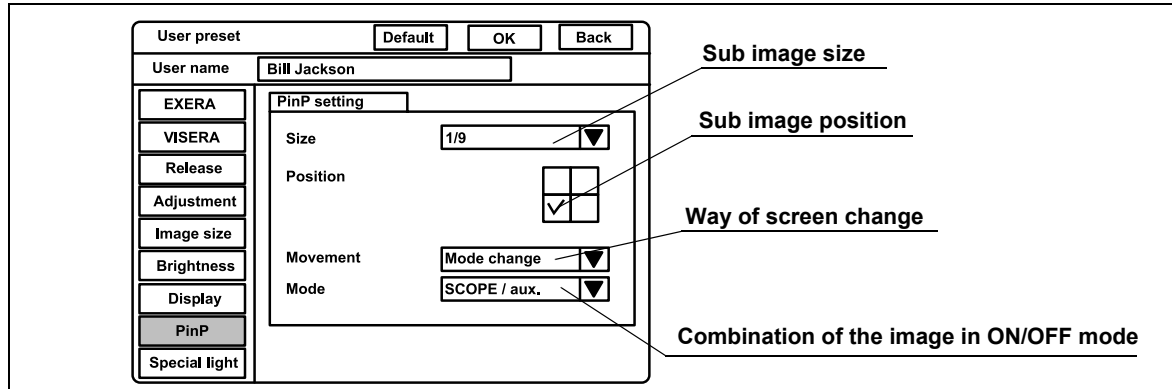
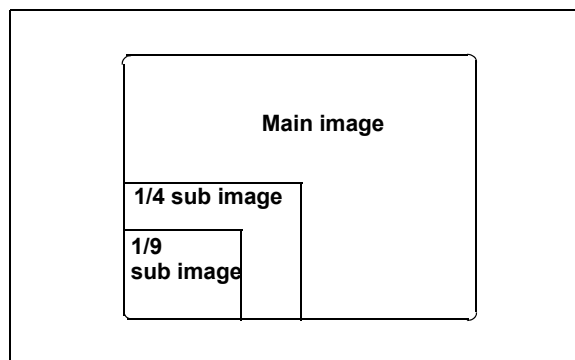

Figure 9.41
Figure 9.42
Click "PinP" on the system setup menu. The setting items appear on the right side of the window (see Figure 9.41).
1. Click "▼" of "Size" (see Figure 9.41). The PinP sub image sizes appear in the pull-down menu (see Figure 9.42).
1. Click “ ▼ ” of “Movement” (see Figure 9.41). The PinP modes appear in the pull-down menu.
3. Click “ ▼ ” of “Mode” if “ON/OFF” of “Movement” is selected (see Figure 9.41). The display modes appear in the pull-down menu.